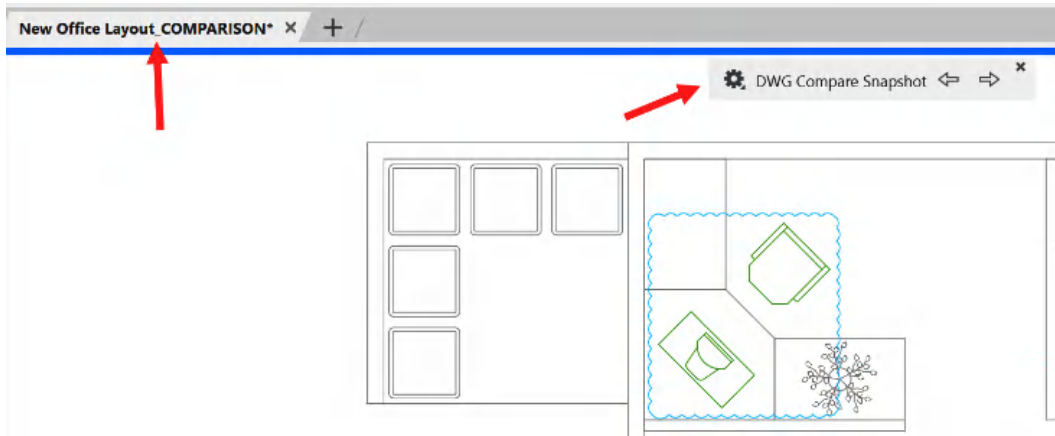

Figure 14.16: The saved comparison DWG file in DWG Compare Snapshot mode
10. Clicking on the **Open the drawing** link will open the comparison drawing in **DWG Compare Snapshot** mode, as shown in *Figure 14.16*.